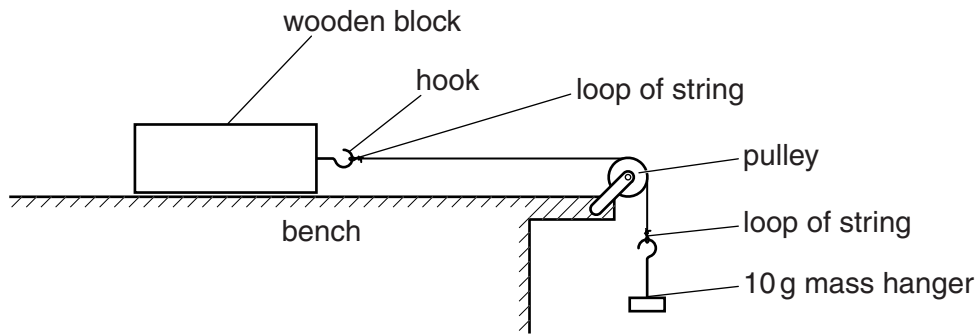

Fig. 4.2
4. The pulley should be set up at the edge of the bench so that the **candidate** can set up the apparatus as shown in Fig. 4.2.